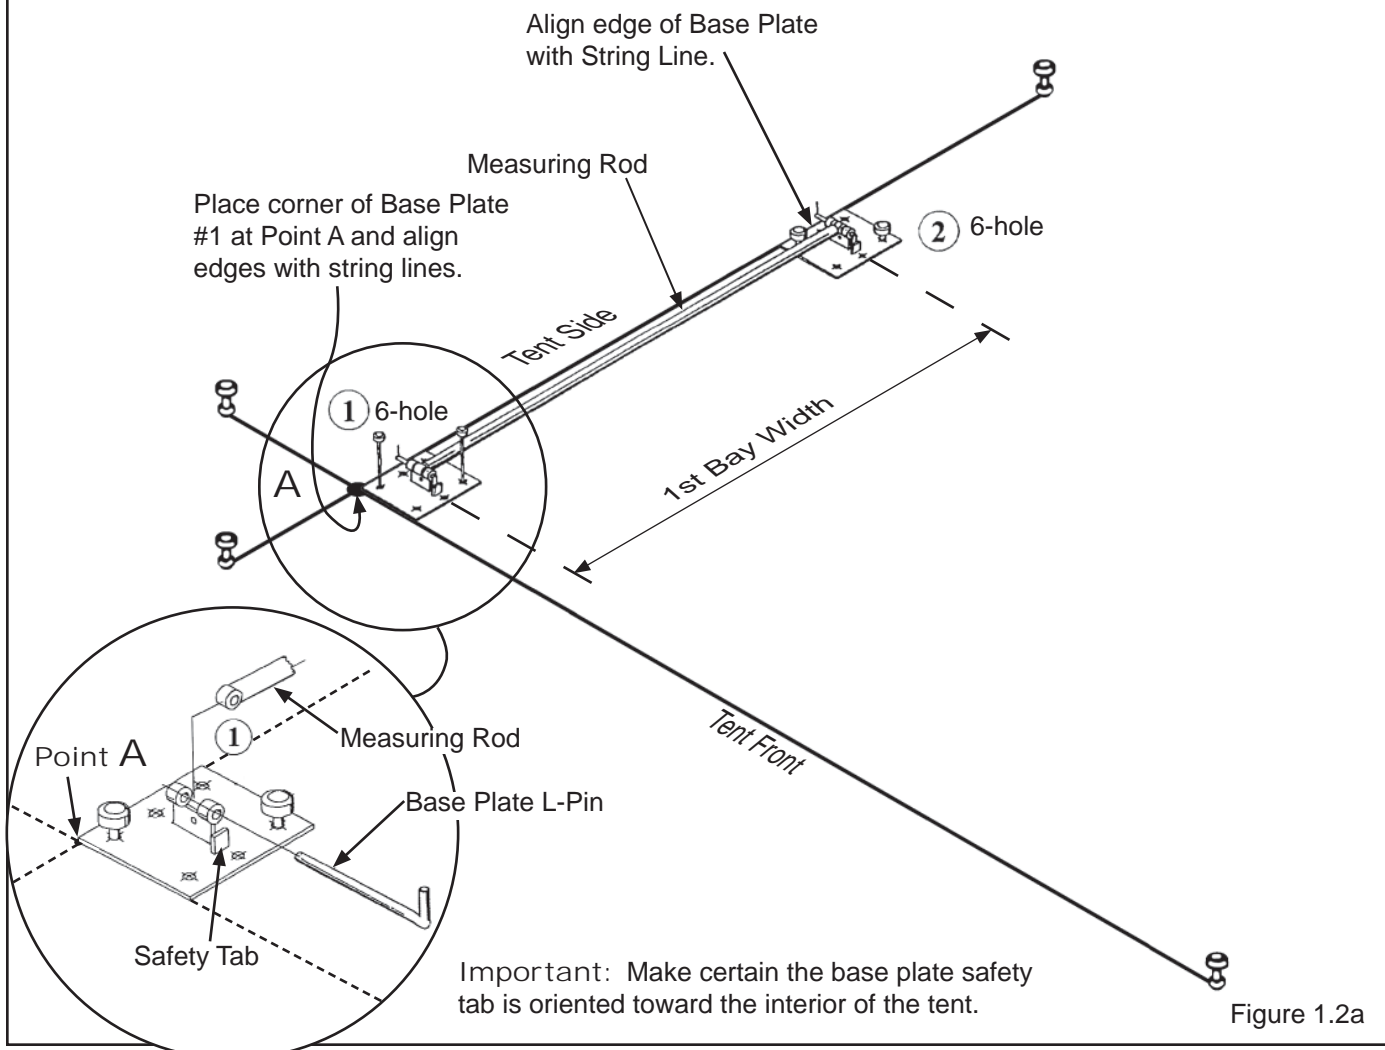

Figure 1.2a
- 1.2 Setting Base Plates:** Incorrect placement of base plates will create problems for the rest of the installation. Each hole of each base plate requires stakes for proper installation. **IMPORTANT:** Safety Tabs on all base plates must be oriented toward the interior of the tent. See Figure 1.2a. 6-Hole base plates use 48" stakes, 4-Hole and 2-Hole base plates use 31 1/2" stakes.
- 1.2.1 Starting at point A, place the outside corner of 6-Hole base plate #1 at point A, making sure the edges along the front and side of the base plate align with the front and side string lines, respectively. Anchor with two (2) stakes. See Figure 1.2a.
- 1.2.2 Connect the measuring rod with base plate L-Pin to base plate #1. Connect other end of the Measuring Rod to base plate #2 with base plate L-Pin. See Figure 1.2a.